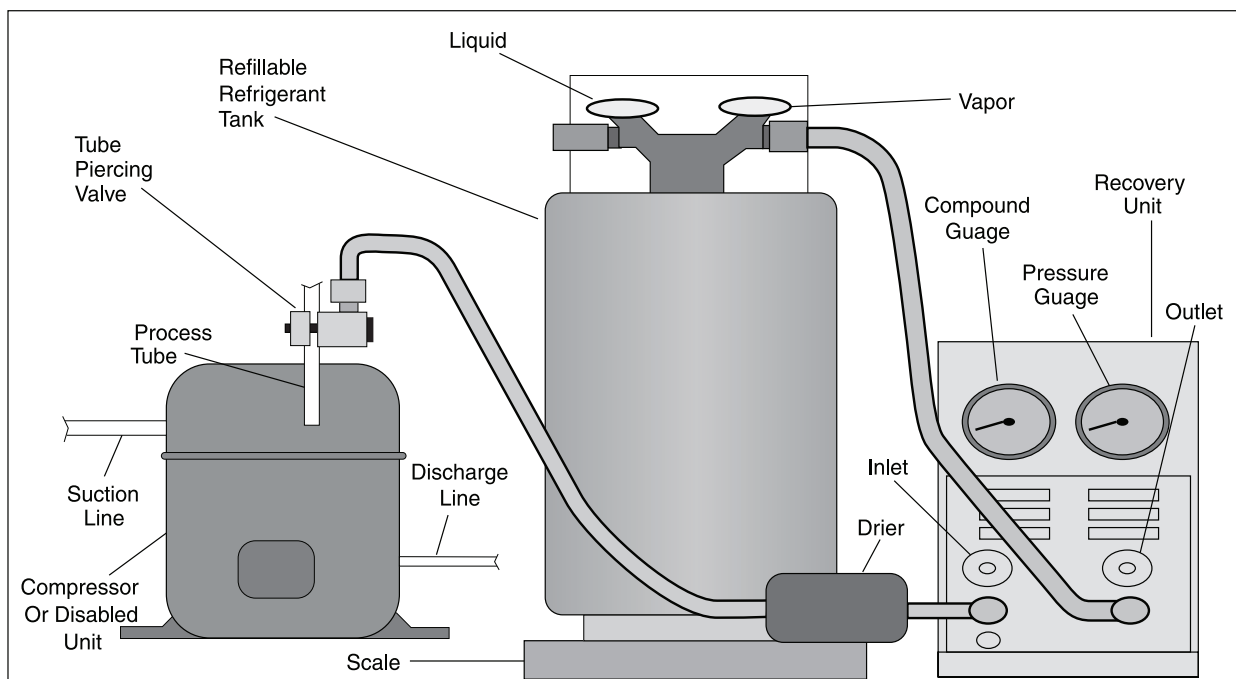

Figure 5-3. Installation of Recovery Equipment
2. Attach an approved self tapping line tap valve to the process tube. Connect refrigerant recovery system to tap valve. Turn on recovery system, open the line tap valve, and allow refrigerant to flow into an approved tank. (See Figure 5-3)
4. Shut system down and allow to set for two minutes. If pressure is below (0) pounds per square inch, disconnect equipment and proceed with repair.
5. If pressure does not stay below (0) pounds per square inch, repeat steps 3 and 4 until all refrigerant is removed and system remains in a vacuum.